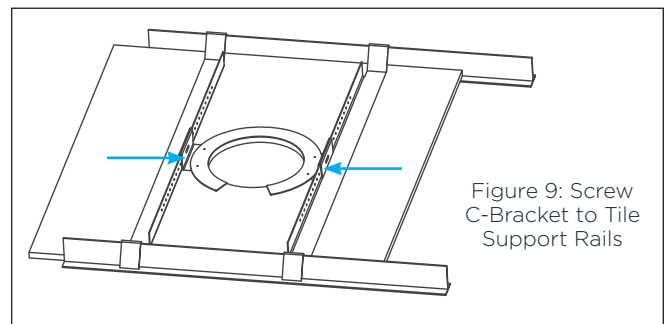

Figure 9: Screw C-Bracket to Tile Support Rails
1. The included C-bracket and tile support rails should be used in all suspended ceiling installations. The C-bracket and tile support rails can also be used in installations when the speakers are mounted into material that will not support their weight. Insert the two tile support rails and C-bracket through the hole you have cut, placing them as shown. Using the two screws that are supplied, screw the C-bracket to the tile support rails as shown (see Figure 9). After the C-bracket and tile support rails are installed, follow Step 2 through Step 7 in the standard installation instructions.